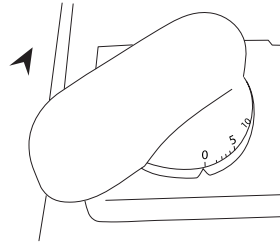

FIGURE 4
5. Rotate the Thickness Adjustment Knob to set the Gauge Plate to the desired cutting thickness. (FIGURE 4)